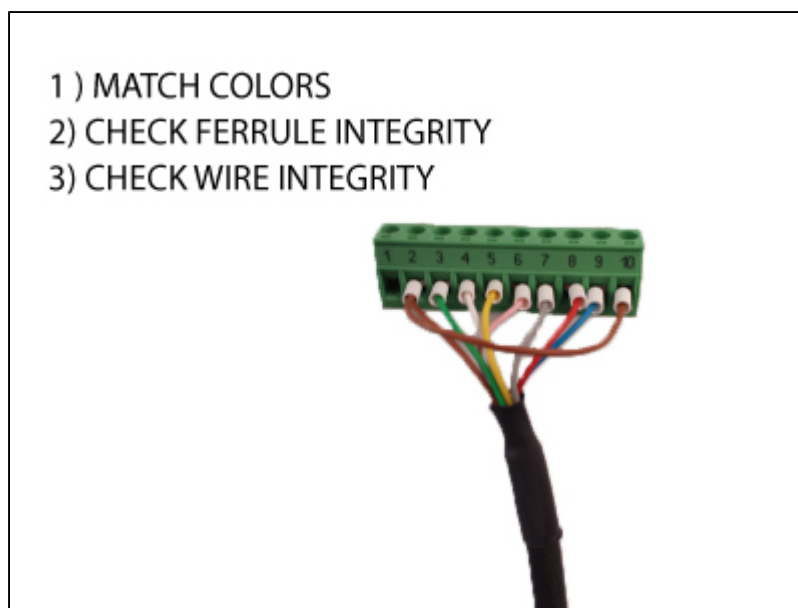

Figure 9.1 : Correct Gripper signal cable connector.
- i. It's ON : Gripper does not have power, but the controller does, check the integrity of the Gripper signal cable (shown in Section 3.4) (Figure 9.1).